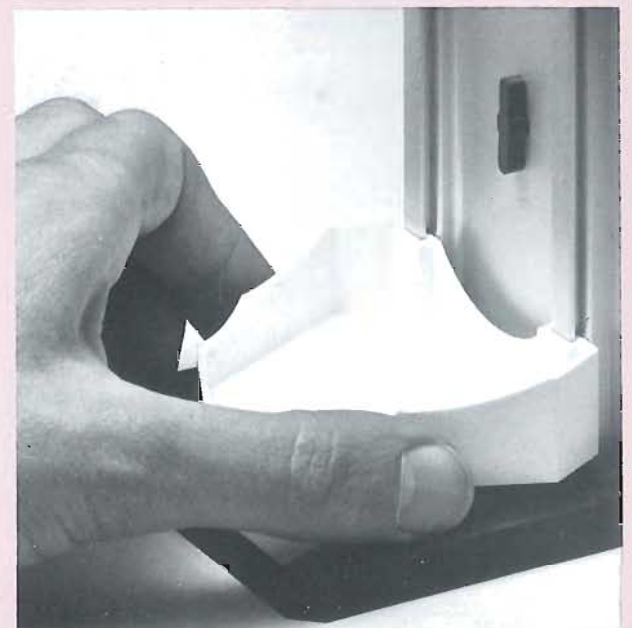

Fig. 4
**5** Place the dovetail of the upper base tray into the guide rails on the vertical posterior wall of the unit and slide it inferiorly to rest against the base plate (Fig. 4).